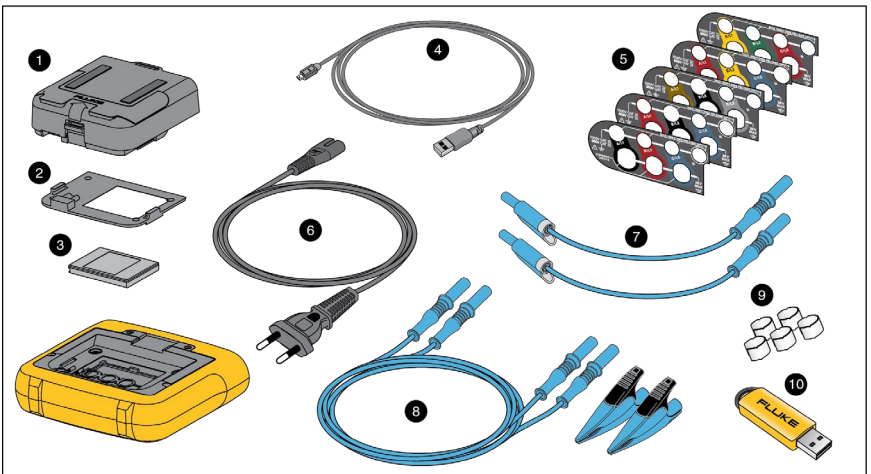

Figure 7. Replacement Parts
You must locate and connect an alternate power source to the instrument if the voltage to measure is <100 V or >500 V. Use the set of 2 m test leads (item 8 in Figure 7) or the supplied power cord.
On page 48, replace Figure 7, with: